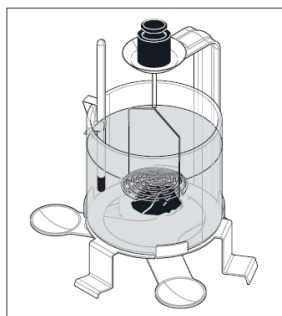

Figure 4.2-4
- If the density of the solid to be measured is less than the density of the auxiliary liquid, use a holder for floating solids (with additional weights if necessary). Immerse the solid to be measured completely under the auxiliary liquid surface, check figure 4.2-4.